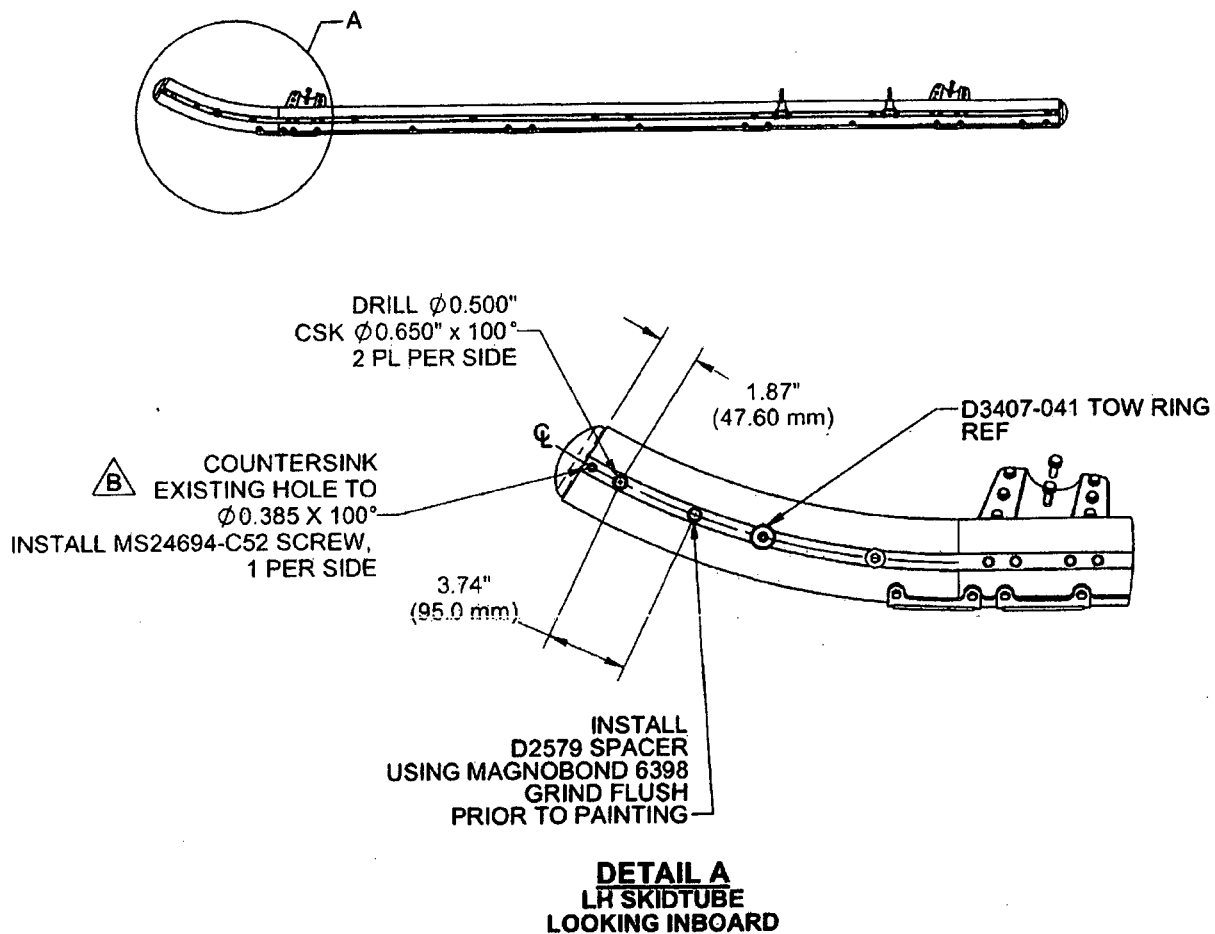

FIGURE 1. MODIFIED D119-646-XXX SKIDTUBE
- 2.2 Mark holes in the center ridge as shown in Figure 1. Drill through skid tube with $\varnothing 0.500$ " (12.7 mm drill), and countersunk to $\varnothing 0.650 \times 100^\circ$, two places per side.
- 2.5 Bond D2579 spacers into the $\varnothing 0.500$ holes center in the skid tube using Magnobond 6398. Grind flush prior painting as shown in Figure 1.